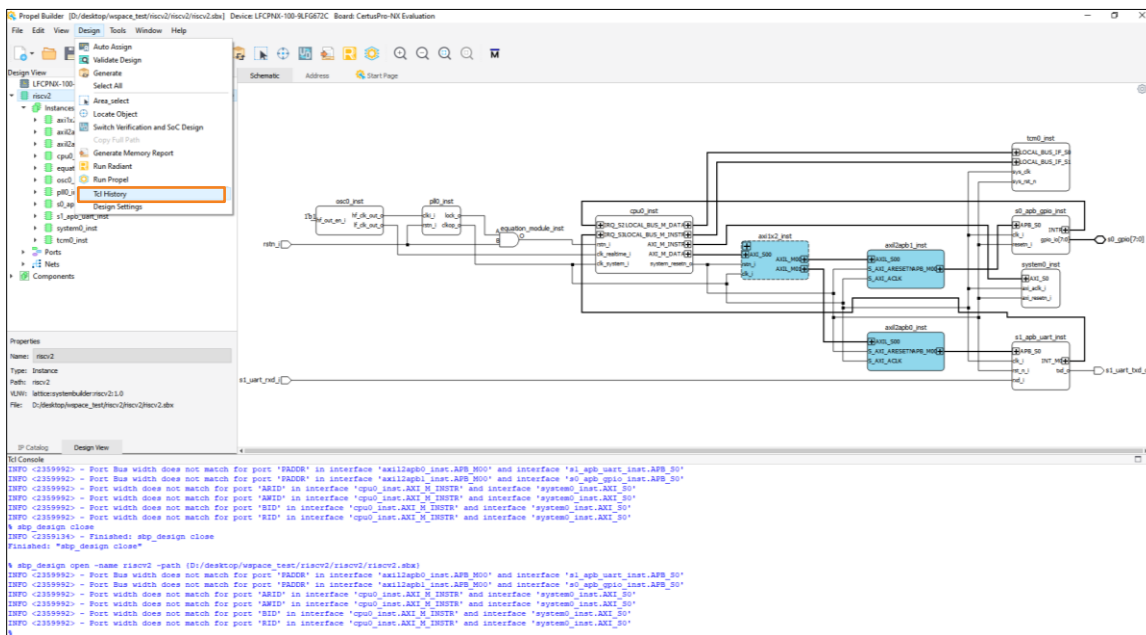
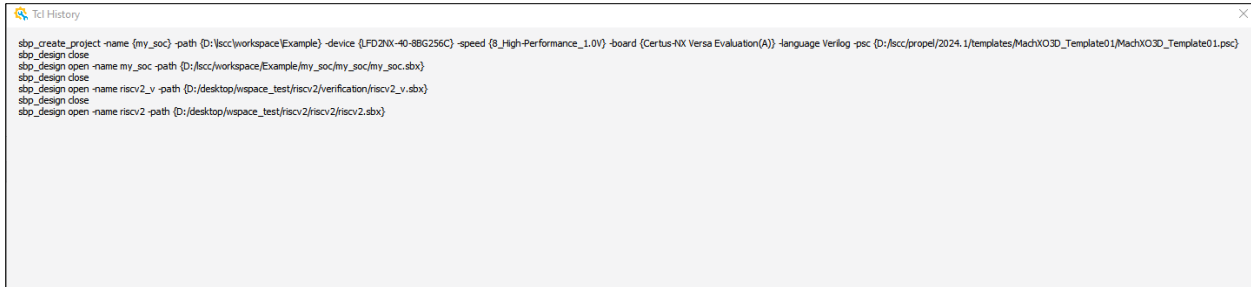

Figure 2.122. Open TCL History
Figure 2.123. TCL History Window
- d. TCL history can be viewed in TCL History window (Figure 2.123) by choosing Design > TCL History (Figure 2.122).